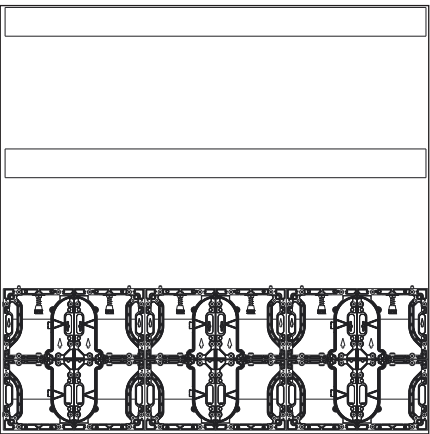

Figure 6: Install Bottom Row of Panels
7. Repeat Steps 4-6 for each panel in the row, ensuring the machined surfaces are as flush as possible. Refer to Figure 6.